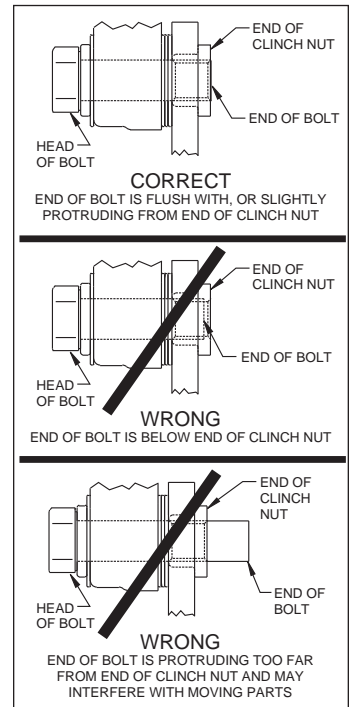

Figure 3. Clinch Nut Engagement Diagram
**Assembly Instructions** (numbers in parenthesis refer to the parts list, on the preceding page and Figure 1): **CAUTION:** All mounting bolts must fully engage clinch nuts. Be sure to check that all bolts are either flush or protruding through flanged side of clinch nut after shimming, Figure 3.
- NOTE:** Please reference the caution statement at the beginning of the assembly instructions. Mount the caliper (17) onto the caliper mounting bracket (1) using bolts (19) and washers (18), as shown in Figure 1. Initially place two .035" thick shims (20) on each bolt between the caliper and the bracket, Photo 8. Temporarily tighten the mounting bolts and view the rotor (10) through the top opening of the caliper. The rotor should be centered in the caliper, Photo 9. If not, adjust by adding or subtracting shims between the bracket and the caliper. Always use the same amount of shims on each of the two mounting bolts. **NOTE:** The end of each bolt must be flush with or slightly protruding from the head of the clinch nut, as shown in Figure 3. If necessary place spare shims between washer (18) and caliper mounting ear to achieve the proper clinch nut engagement. Once the caliper alignment and clinch nut engagement are correct, remove the bolts one at a time, apply red *Loctite*® 271 to bolt threads, and torque to 40 ft-lb.